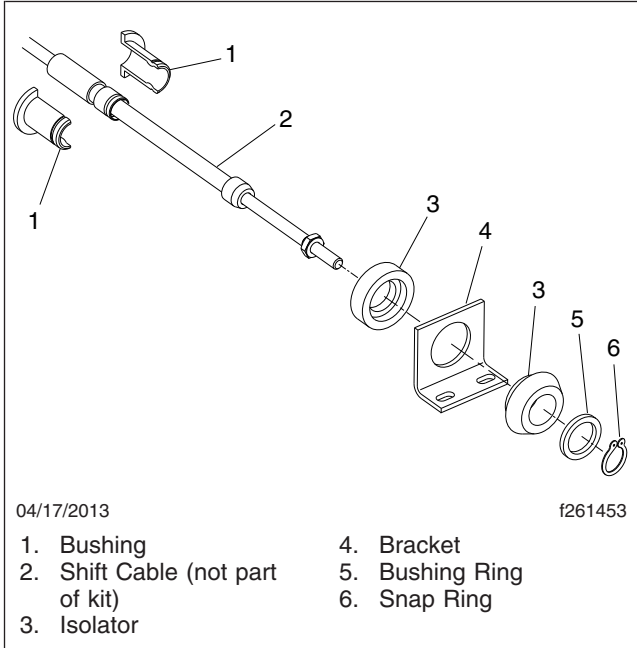
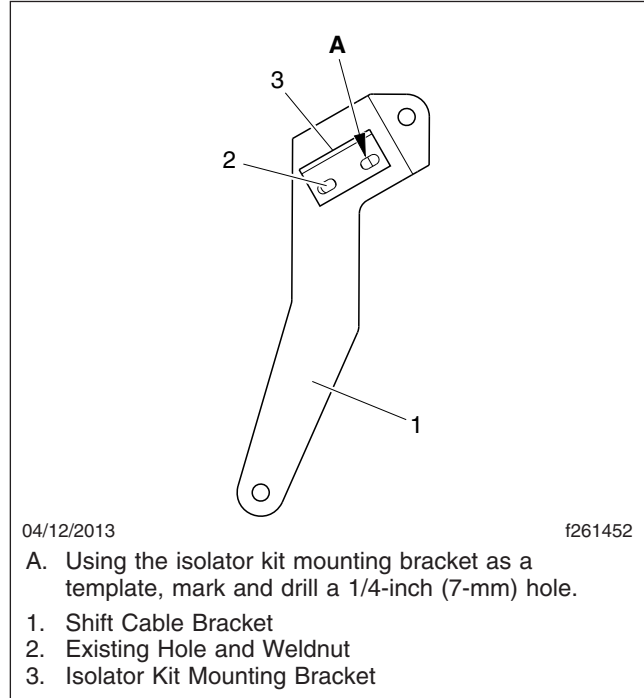
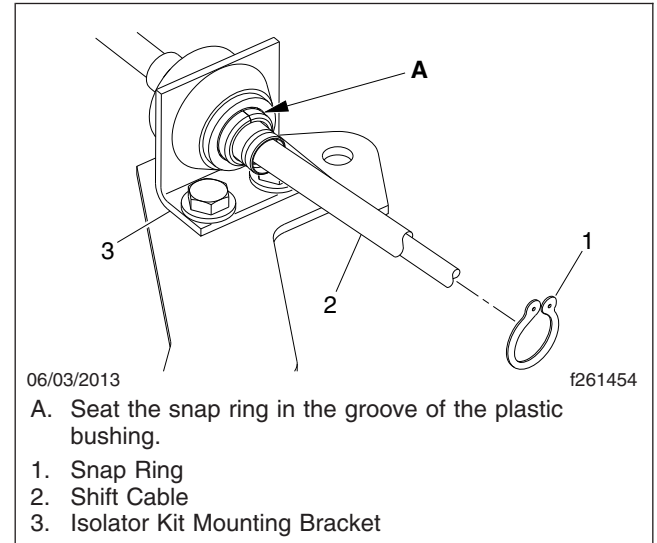

Fig. 8, Isolator Kit KPP 294201
Fig. 9, Locating Isolator Kit Bracket Holes, Kit KPP 294201
Fig. 11, Snap Ring Installation, Kit KPP 294201
- Using the isolator kit mounting bracket (Fig. 8, item 4) as a template, with one hole positioned over the existing hole in the cable bracket, mark and drill a 1/4-inch (7-mm) hole in the cable bracket, as shown in Fig. 9.
10. Install the cable in the bracket using the remaining isolator kit parts (Fig. 8). Make sure the snap ring is seated in the groove of the plastic bushing; see Fig. 11.